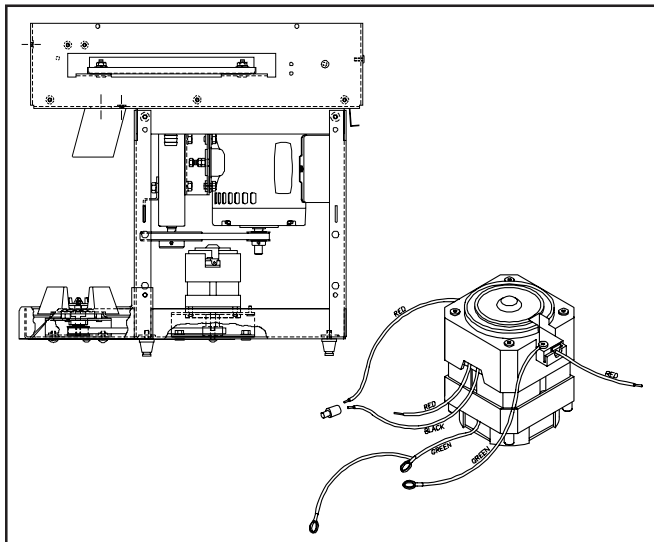

Fig. 15 - Blender Motor
3. Loosen the four hex head screws and move the blender motor forward then remove the belt (Fig.15).